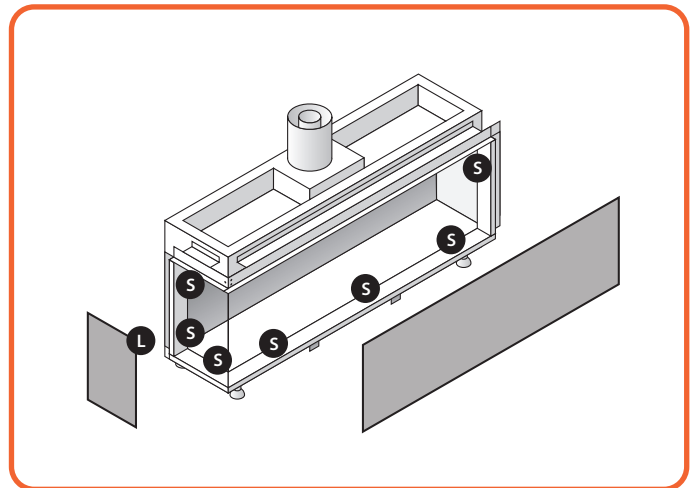

Figure 11.3 - Summum 140 CL - location of tabs
- Remove the safety screen(s) from their holders. The safety screens are held by magnets (**Figure 11.3**).